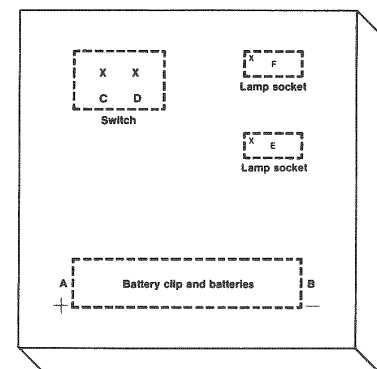

Figure 1. Circuit Board Diagram
- Lay out the board with a pencil and ruler as indicated in Figure 1 or get creative without changing the wiring.